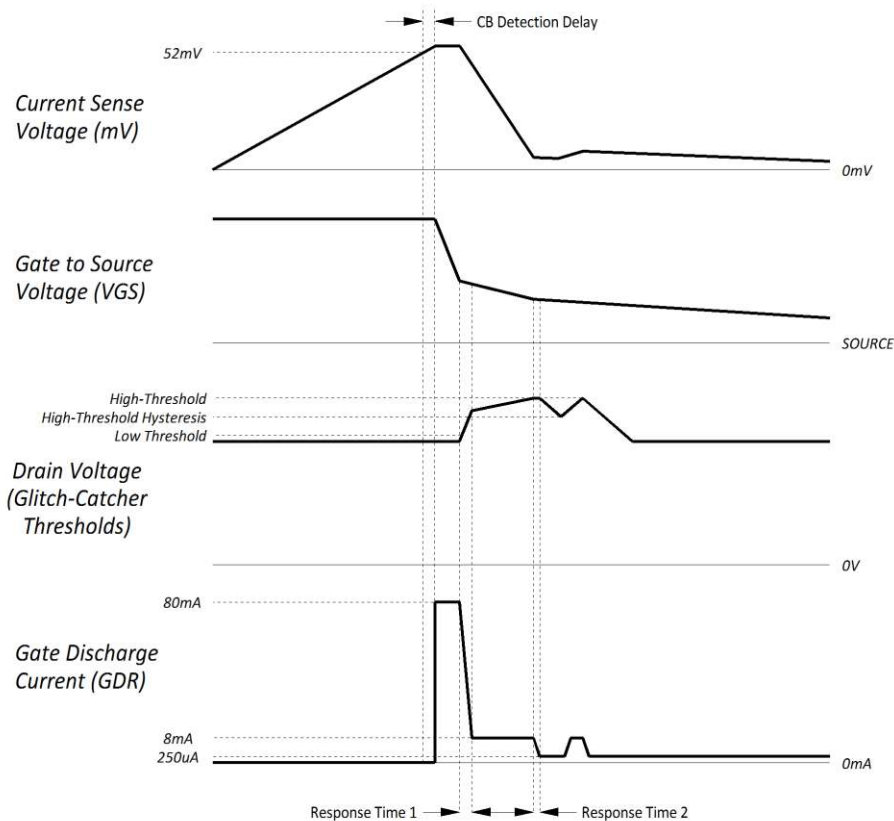

Figure 9 - Circuit Breaker (CB) and Glitch-Catcher™ waveforms.
Note 3: The Circuit Breaker fault is enabled only when no other fault has occurred prior to exceeding the 52mV threshold. If another shutdown event occurs first (SOA shutdown, UV shutdown, OV shutdown, Disable shutdown) then circuit breaker fault sensing is disabled and held disabled until the gate is fully discharged and the trip hold time has passed. See Figure 9 for details.
Figure 9 represents the typical response waveforms of the PI2211 Glitch-Catcher™ to a circuit breaker (CB) event. After the CB detection delay, the MOSFET gate gets discharged
Sometime after the normal start-up an over-current event occurs, triggering the Glitch-Catcher™ turn-off of the MOSFET and the low assertion of the power good pin. See Figure 9 for further details.